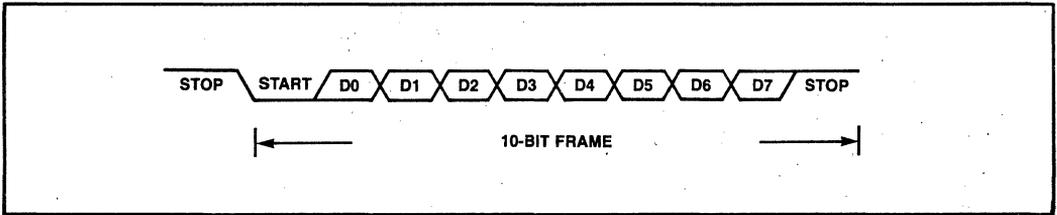

Figure 2-24. Serial Port Frame — Mode 1
10-bit frames are transmitted through TXD, and received through RXD: a start bit (0), 8 data bits (LSB first), and a stop bit (1). This mode is the one commonly used for CRT terminals. The data frame for Mode 1 is shown in Figure 2-24.